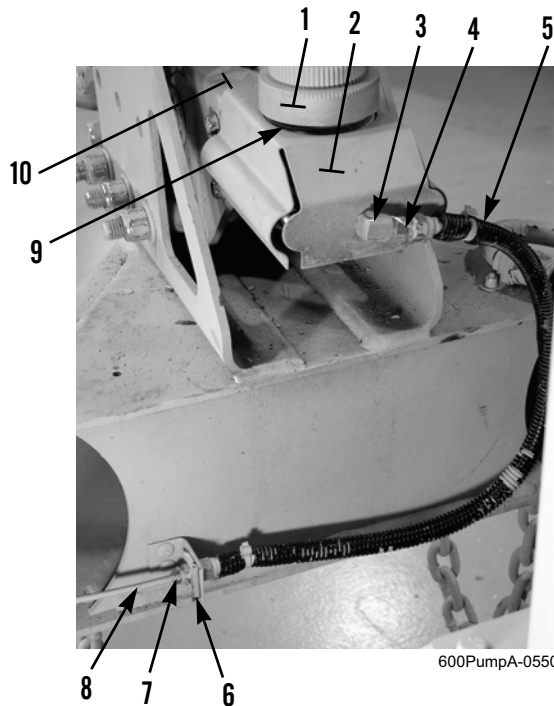

Figure 1. Master Cylinder and Flex Brake Line.
1. Place a suitable container under flex brake line (Figure 1, Item 5) and master cylinder (Figure 1, Item 9).
2. Loosen nut (Figure 1, Item 7), remove frame bracket clip (Figure 1, Item 6), and disconnect flex brake line (Figure 1, Item 5) from front solid brake line (Figure 1, Item 8).
3. Disconnect flex brake line (Figure 1, Item 5) from straight adapter (Figure 1, Item 4).
4. Remove straight adapter (Figure 1, Item 4) and elbow (Figure 1, Item 3) from orifice of master cylinder (Figure 1, Item 9). Plug orifice of master cylinder.
5. Remove cap (Figure 1, Item 1) from master cylinder (Figure 1, Item 9).
6. Remove access cover (Figure 1, Item 2) from actuator housing (Figure 1, Item 10). Reinstall cap (Figure 1, Item 1) on master cylinder (Figure 1, Item 9).